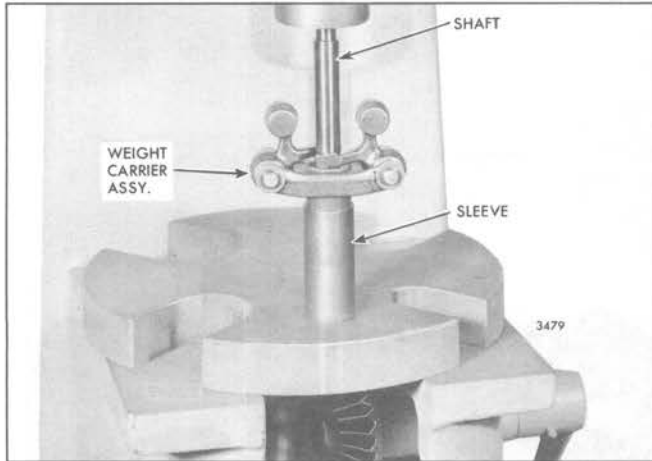

Fig. 11 – Removing Governor Weight Shaft from Weight Carrier Assembly
- a. If removal of the weight carrier assembly from the shaft is necessary, support the shaft, weight carrier and sleeve on the bed of an arbor press as shown in Fig. 11, and press the shaft out of the weight carrier assembly.